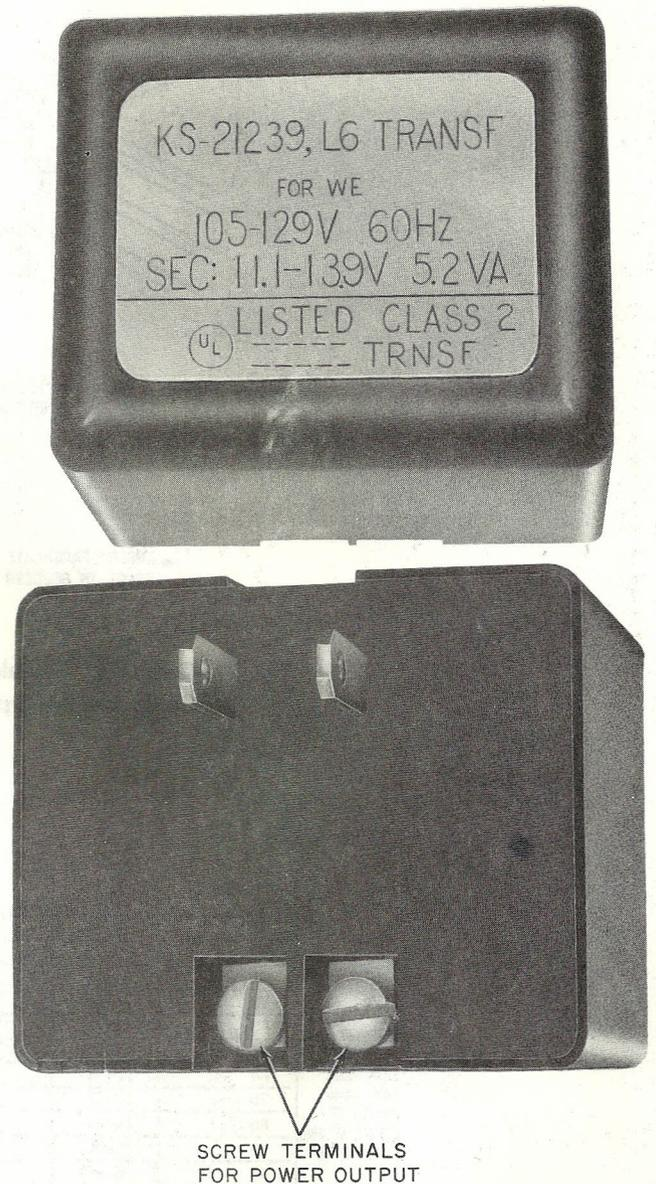

Fig. 6—KS-21239,L6 Transformer
3.06 Connect the spade tips of the 2-conductor power cord to the screw terminals of *KS-21239,L6* transformer (Fig. 6). (Early versions of the cord were equipped with two spade tips. The later versions will be equipped with a stayband which serves as one conductor and one spade tip for the second conductor.) Connect transformer to a customer-provided 115V ac outlet not under control of a switch. Where necessary to extend leads to available outlet, use D station wire. Use all four conductors.